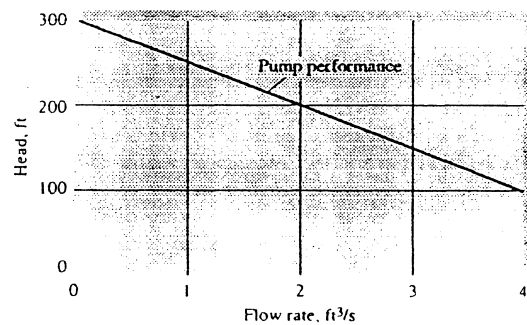

Fig. P3.142
3.142 A typical pump has a head which, for a given shaft rotation rate, varies with the flow rate, resulting in a *pump performance curve* as in Fig. P3.142. Suppose that this pump is 75 percent efficient and is used for the system in Prob. 3.141. Estimate (a) the flow rate, in gal/min, and (b) the horsepower needed to drive the pump.